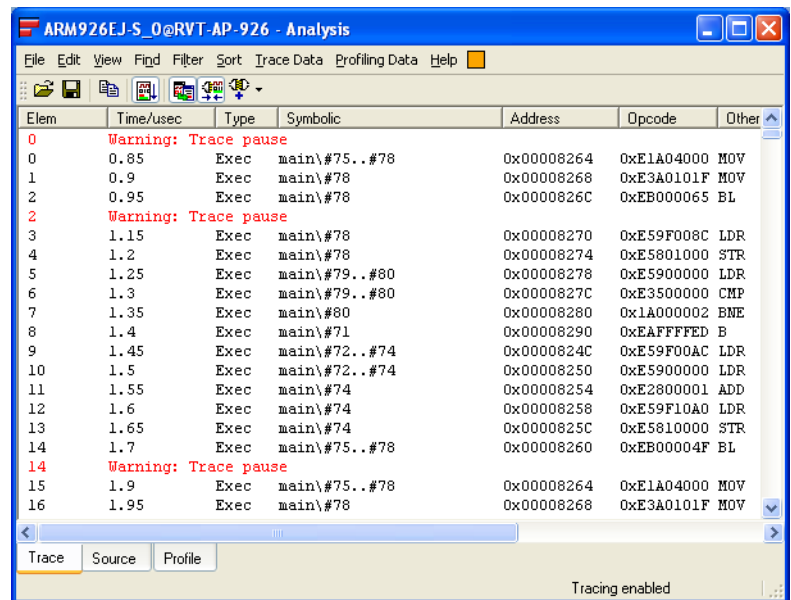

Figure 10-32 Captured trace in Analysis window
5. After a short time, click **Stop** on the Debug toolbar to stop execution. The captured trace is displayed in the **Trace** tab of the Analysis window. Figure 10-32 on page 10-31 shows an example: